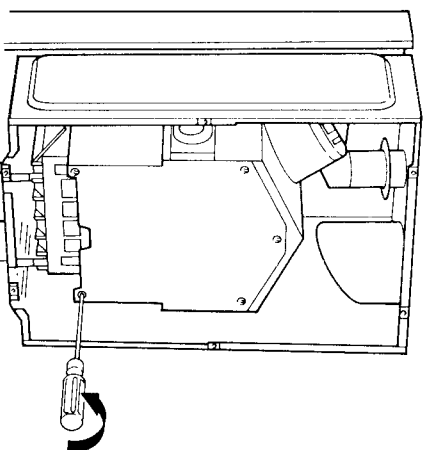

Fig. 20
Refer to figs 20, 21 & 22
8.6.3 Remove front of combustion chamber by releasing five screws (fig 20)